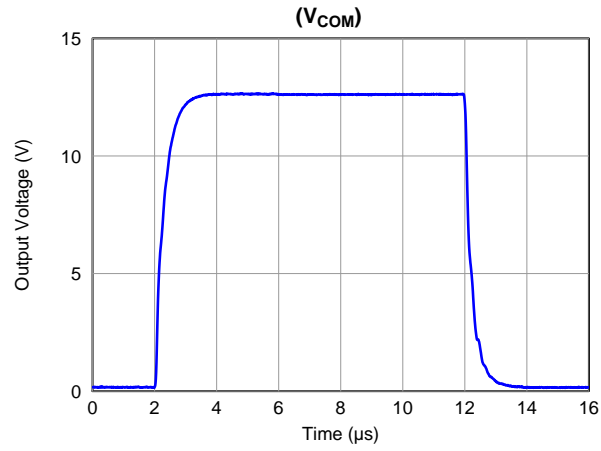

Figure 19.
(1) The BUF08630 V_{COM} DAC limits can be programmed. These default limits apply if the device is not programmed. See the Programmable Vcom Limits section.
(2) See Figure 19, Large-Signal Step Response, V_{COM}.
(3) Observe maximum power dissipation.
(4) The V_{COM} output voltage is limited to codes 0 to 960 because of the common-mode input range of the V_{COM} amplifier. This limitation is for V_{COM} only; it does not affect DAC OUT1 to 8.